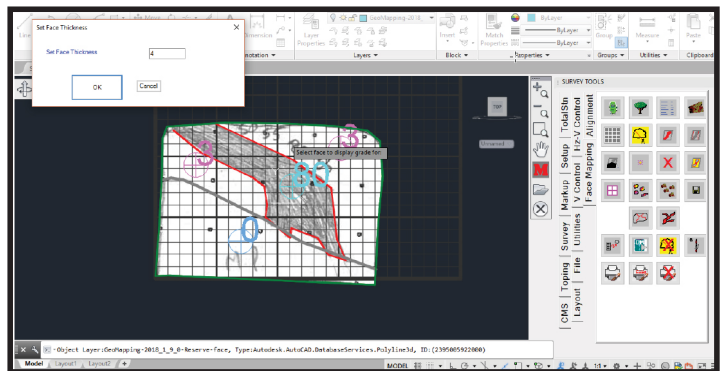

fig.2
3. Importing the sketch from the field and digitizing. (*fig.2*)